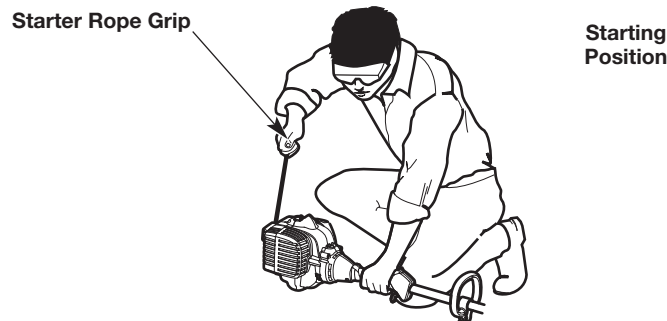

Fig. 9
WARNING: Avoid accidentally starting the unit. To avoid serious injury, the operator and the unit must be in a stable position when pulling the starter rope (Fig. 9).
3. Crouch in the starting position (Fig. 9).
4. Pull the starter rope with a controlled and steady motion until the unit starts (Fig. 9).